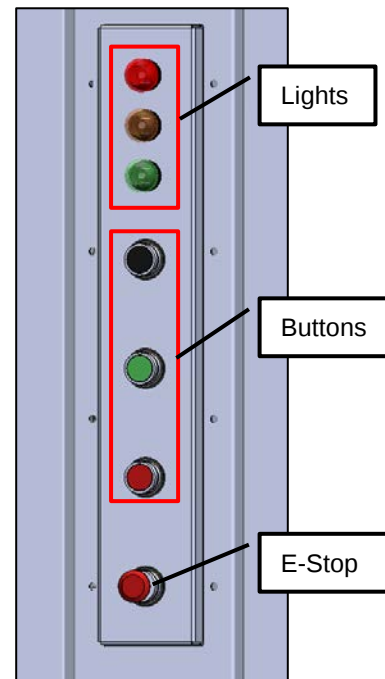

FIGURE 1.17-1: CONTROL PENDANT
- 1) With the Green Machine powered off and the disconnect switch open, test all of the buttons on the control pendant (Figure 1.17-1) to confirm that they operate smoothly.